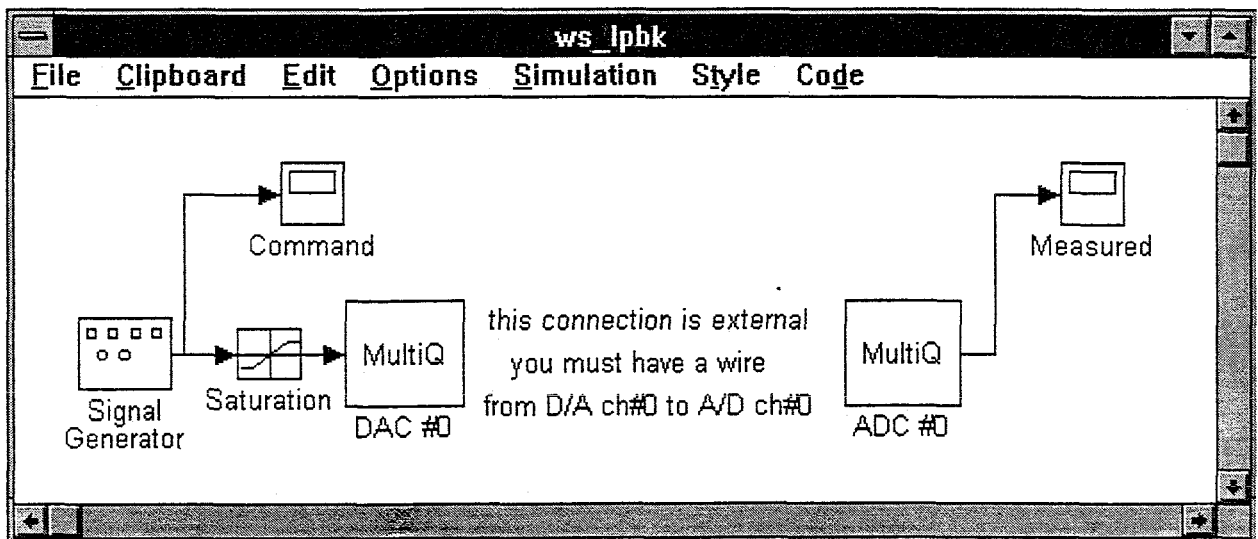

Figure 4.1.2 SIMULINK diagram of loopback "controller"
1) Start MATLAB for windows and type `cd c:\winsim` . Type `ws_lpbk` This loads the diagram shown in Figure 4.1.2. You could have generated this diagram yourself using SIMULINK.